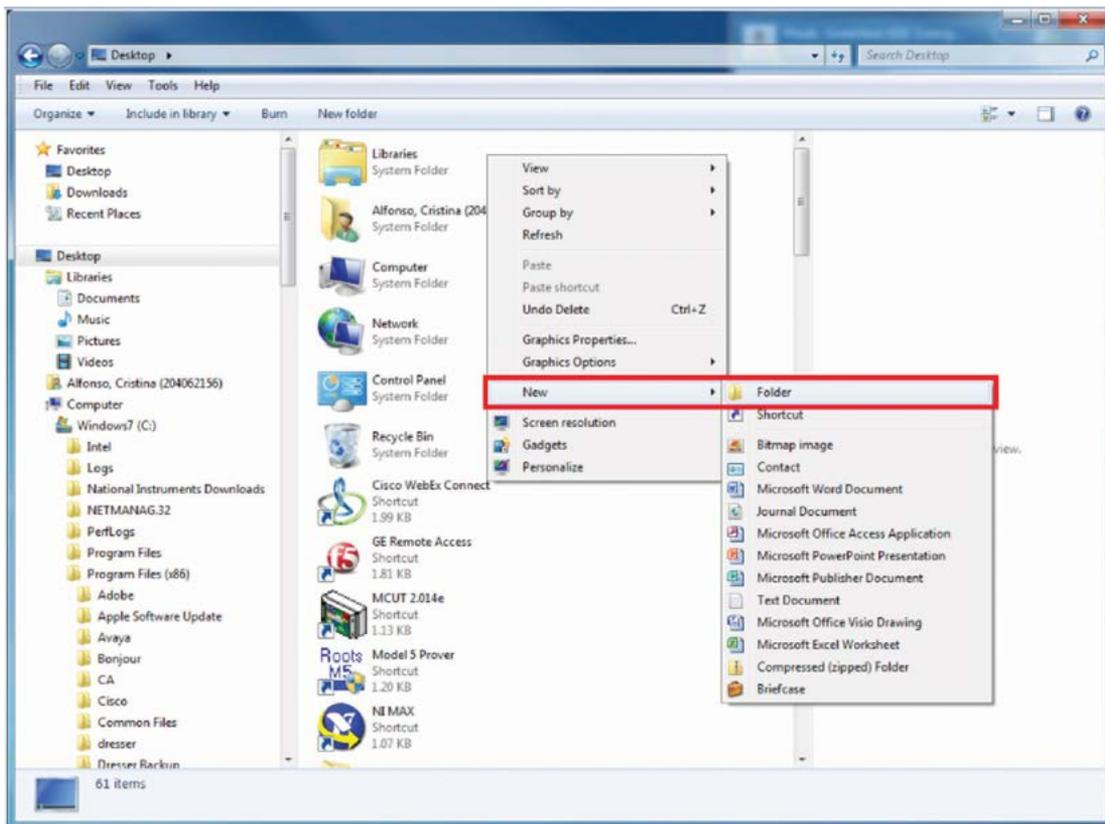

Figure 8: Select "New" and "Folder"
8. After selecting "Desktop", right click on the blank space. Select "New" and "Folder" as shown in **Figure 8** below.